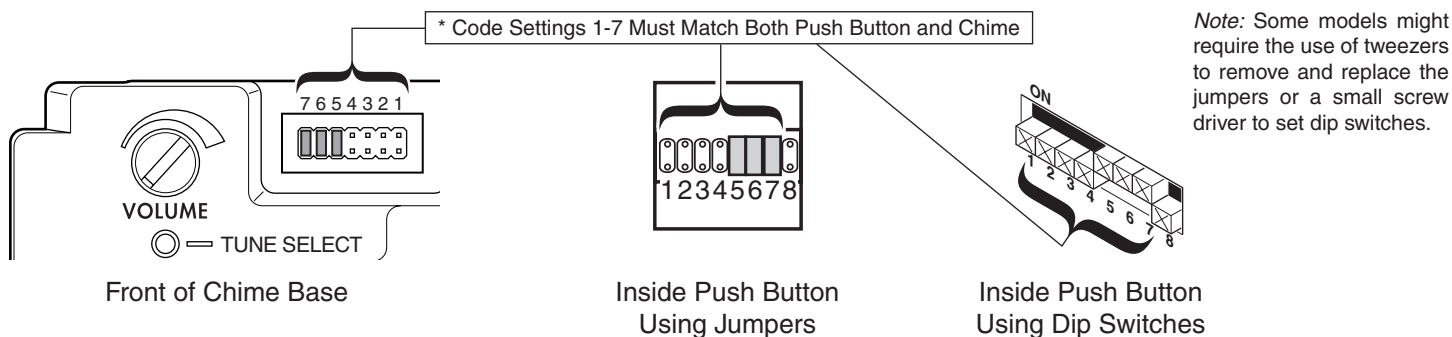

Figure 12
- Make sure push button and chime codes are the same (see Figure 12).
1. Open the cases and locate the dip switches or jumpers on both the push button and chime (see Figure 12).
Note: Unit will come factory set with jumpers in locations 5, 6, and 7 on the push button and on the chime or dip switches 5, 6, and 7 in the ON position (see Figure 12).